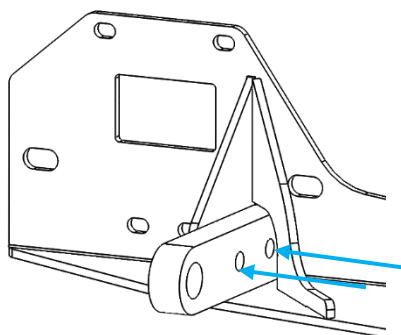

Figure 20: Tow Hook Installation
28. Install tow hooks into your front receiver using the ½"-13 hardware provided, along with accompanying nuts and washers (Figure 20).